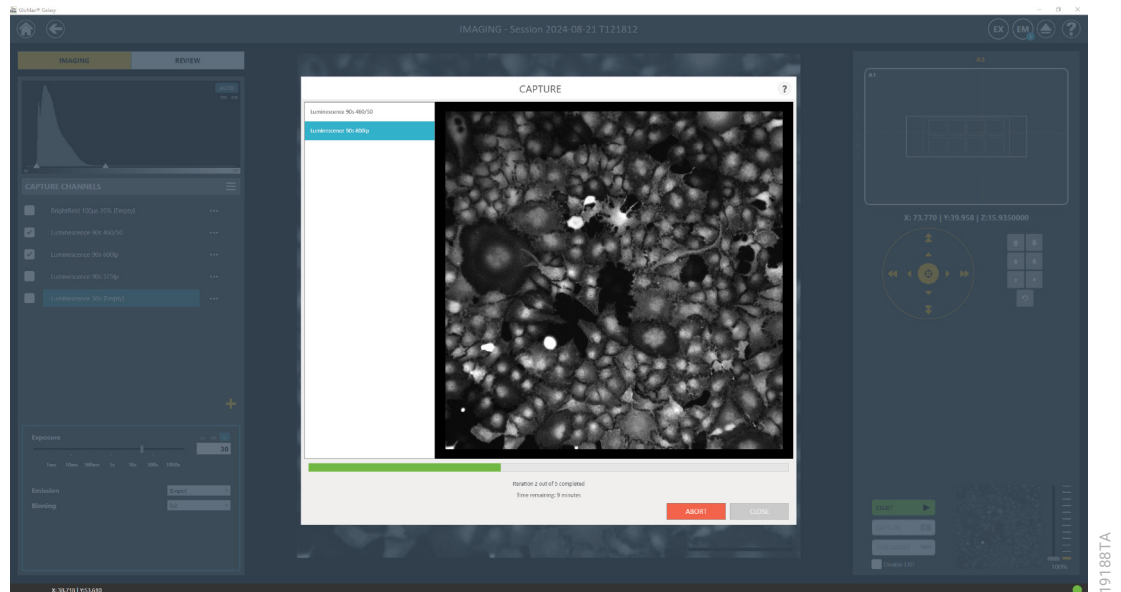

Figure 30. Time-series captures and progress bar.
7. During a time series, a pop-up window will show the elapsed and remaining time and the images captured from the last timepoint. Select the tabs for different channels on the left side of the window to view the respective images (Figure 30).